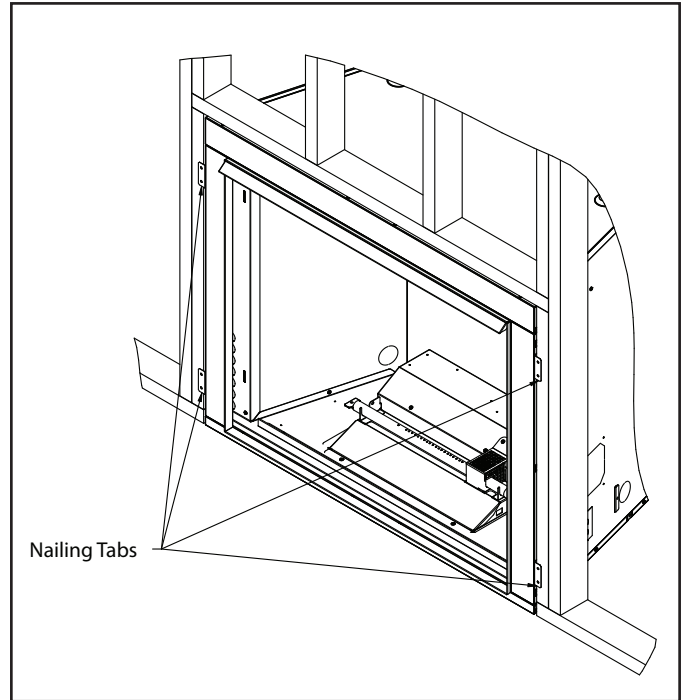

Figure 4.1 Positioning and Securing Nailing Tab
- Nailing tabs must be moved from shipping position to installation position and secured to framing. Bend the two nailing tabs out on each side. See Figure 4.1.